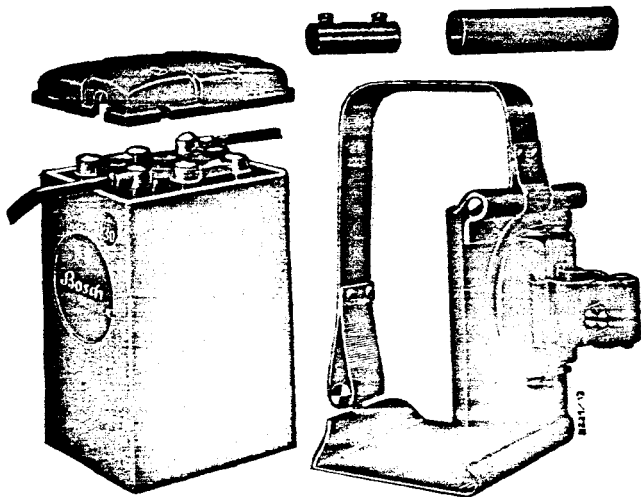

Fig. 4. Batterie BGD 312 with battery carrier and cable connector
1) Battery BGD 312 (Fig. 4)
The positive cable (30) is connected by a socket (Fig. 4) with the cable running from terminal 30 on the dynamo-magneto. This socket is protected against earthing by a rubber sleeve.